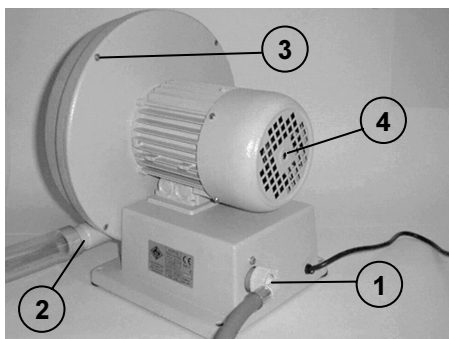
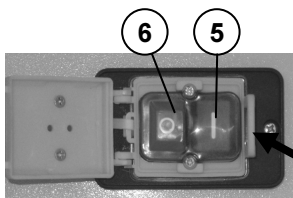
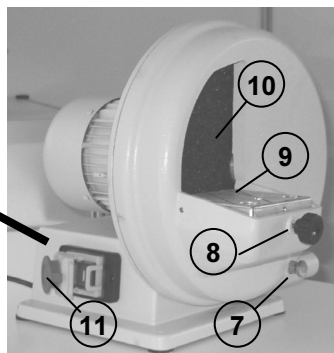

Fig. 1
Fig. 2a
Fig. 2b
- a) connect the water supply hose to the threaded connector (1, Fig. 1) located on the rear of the appliance - TRIM-1 models only;
- b) the residual water drain hose on the relevant connector (2, Fig. 1) - TRIM-1 models only - inserting the other end of the hose into a decanting tank; or
- c) a suitable suction system (we recommend the AIR-BOX DE GIORGI system) on the relevant connection (2, Fig. 1) - TRIM ECO DISK models only;
The appliance is set into operation by pressing pushbutton “I” (5, Fig. 2a).
Remember to switch the appliance OFF after use by pressing pushbutton “O” (6, Fig. 2a) through the mushroom-head stop button (11, Fig. 2b). Lock the mushroom-head stop button in the closed position (Fig. 3a)
The appliance is designed for use in dental laboratories. The plate (9, Fig. 2b) is used as a rest for the workpiece and may be inclined in three positions ($90^\circ \pm 10^\circ$) thanks to the presence of three alternative holes in which to tighten the positioning knob (8, Fig. 2b).
- when working with model TRIM ECO DISK you must use a suction system to exhaust machining dust by making a connection to the appliance dust outlet (2, Fig. 1). We recommend the use of the AIR-BOX DE GIORGI suction system.
- a) Green start pushbutton (5, Fig. 2a)
- b) Red stop pushbutton (6, Fig. 2a)
- c) Red mushroom-head stop button (11, Fig. 2b)
To switch the machine on using the start pushbutton, (5, Fig. 2a), the mushroom-head stop button must be opened (11, Fig. 2b), unlocking it from its closed position (Fig. 3a), by pushing it in the direction indicated by the arrow on the mushroom-head button itself.
Setting the appliance into operation automatically starts the flow of water from the inlet connection (1, Fig. 1); the flow rate can be adjusted by means of the valve on the front of the appliance (7, Fig. 2b) (model TRIM-1 only).
- pushing the mushroom-head stop button (11, Fig. 2b), which completely interrupts power supply to the appliance;